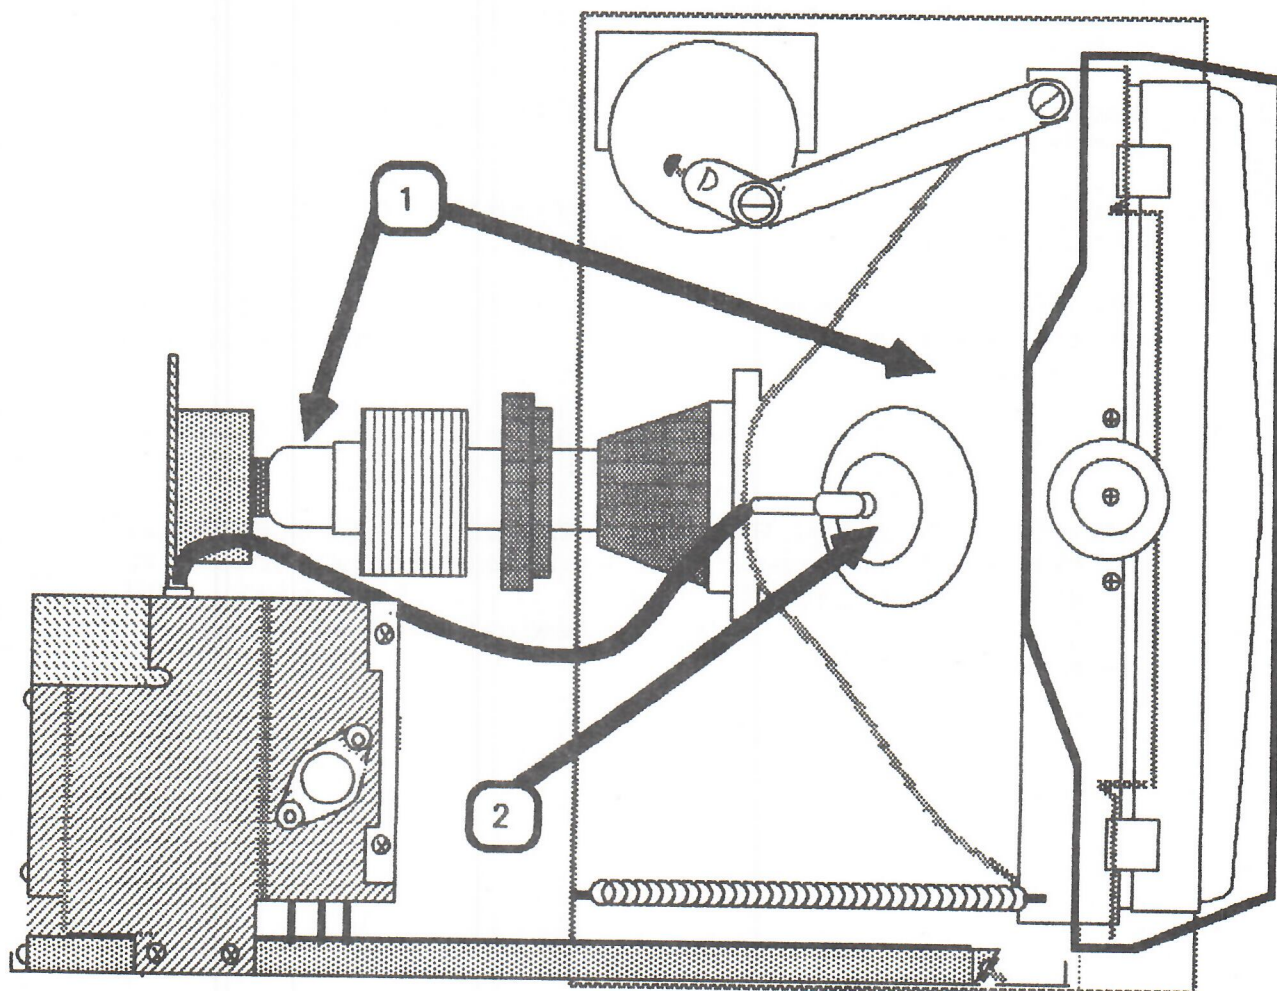

FIGURE 3
2. **ALWAYS DISCHARGE THE CATHODE-RAY TUBE (CRT) (Figure 3, 1) BEFORE REMOVING OR REPLACING ANY INTERNAL PARTS.** The Cathode-Ray Tube in the AppleColor Monitor 100 is an extremely dangerous piece of equipment. It runs at 23,000 volts DC and contains a high vacuum. Before touching any internal components you must discharge the CRT.
6. **NEVER TOUCH THE ANODE** Normally the anode has a connector (Figure 3, #2) plugged into it, but when a CRT is replaced, this connector is removed, exposing the anode. The anode can maintain a charge of several thousand volts (even after the power is off).